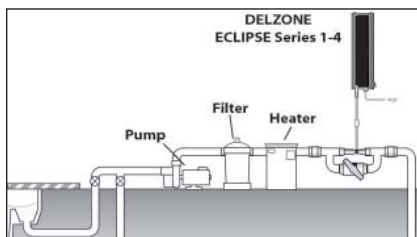

Figure 2 DEL Injector Manifold Mounting Location
**2D-1. Plumbing the Injector Manifold:** The Injector Manifold must be installed in the pool's main return line after all other pool equipment (pump, filter, heater, and cleaner). Figure 2 shows the most basic installation. For installation with additional sanitizers and pool cleaners contact DEL Technical Support (see section 4E).
3. Adjust the injector manifold valve (if applicable) to half open (45°) as shown in Figure 2.